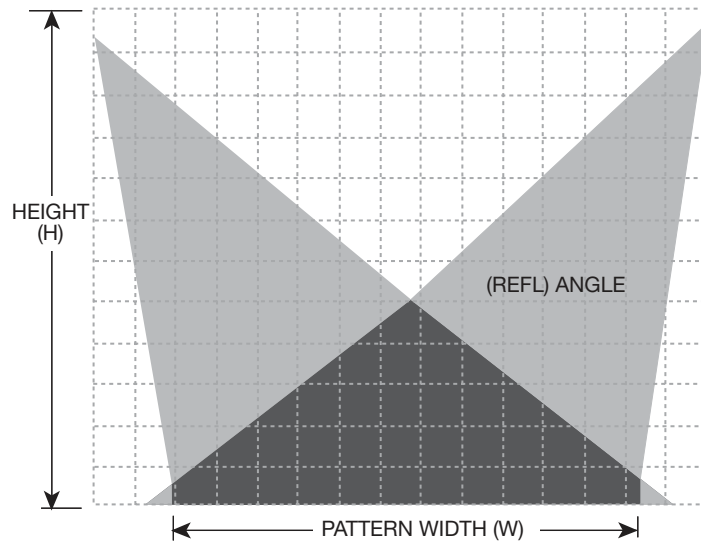

Figure 6: Cross Coverage of the Radiation Pattern by Angling the Heater in a Supplemental Heat Application
7. Tentatively estimate the radiated pattern area. Add length of fixture to the fixture pattern (W) to establish pattern Length (L). Pattern area = $L \times W$. See Figure 6. The formulas for the width and length of the pattern area are shown in figure 8.